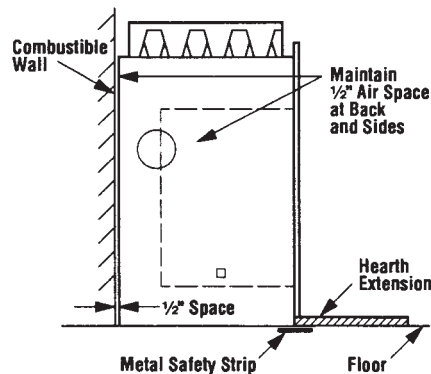

Figure 4
Step 2. Insert the metal safety strips, packaged with the fireplace, beneath the fireplace as illustrated (Figures 4 and 5). The safety strips should overlap 1" for continual coverage of the floor.